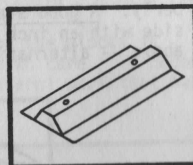

Fig. 23 - Block Length Mold.
73. Blocks can be made with hollow cores running the whole length of the block, but this takes a little more time. The proper molds for these blocks have to be made (see Fig. 23); they do not come with the press. These blocks can be used where metal reinforcing rods are to be run through the laid blocks.